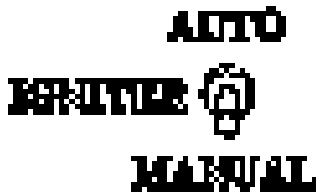

Fig. 12
1. Flip the Igniter Switch Down into the “MANUAL-LIGHT” position. See Fig. 12.